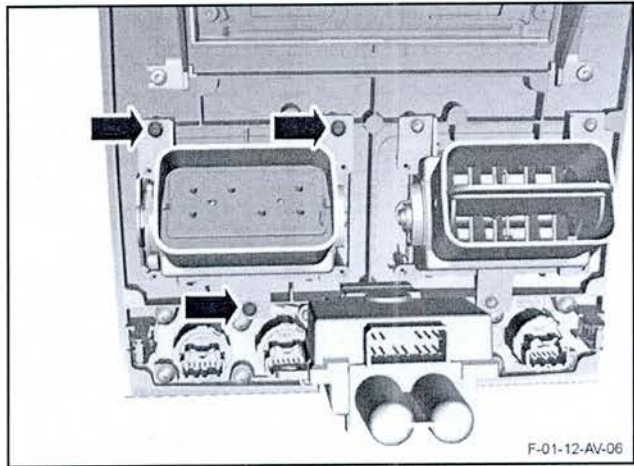

Figure 13
22. Install the right side heater vent (refer to Figure 13).